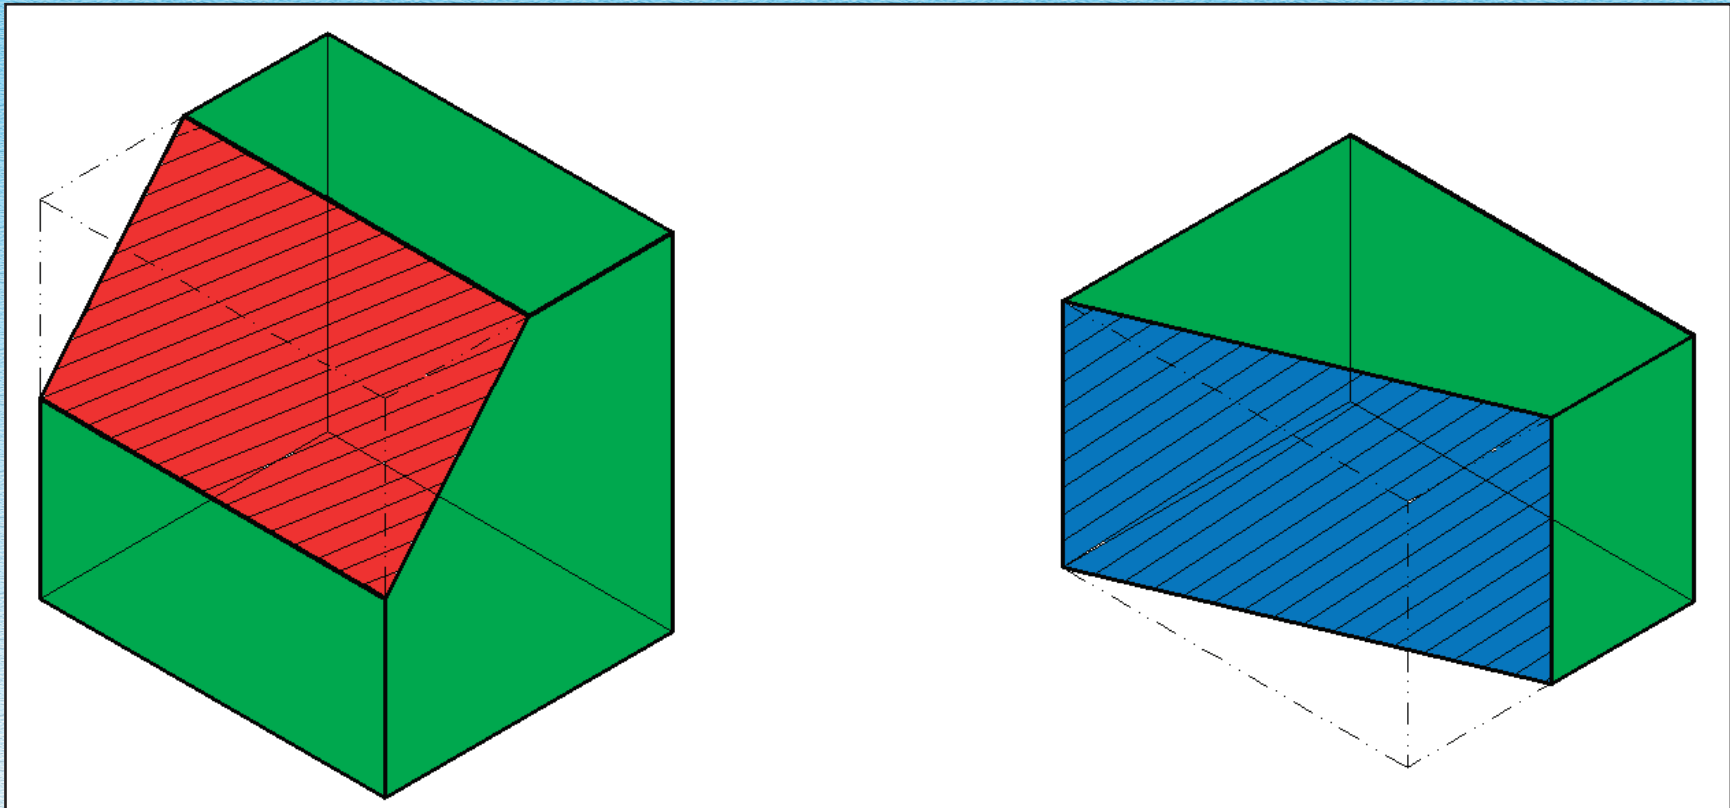

Fig. 5.37 Cut portions of different objects
1. Take a potato, bottle gourd or soap cakes and cut them at different angles, as shown in the Fig. 5.37